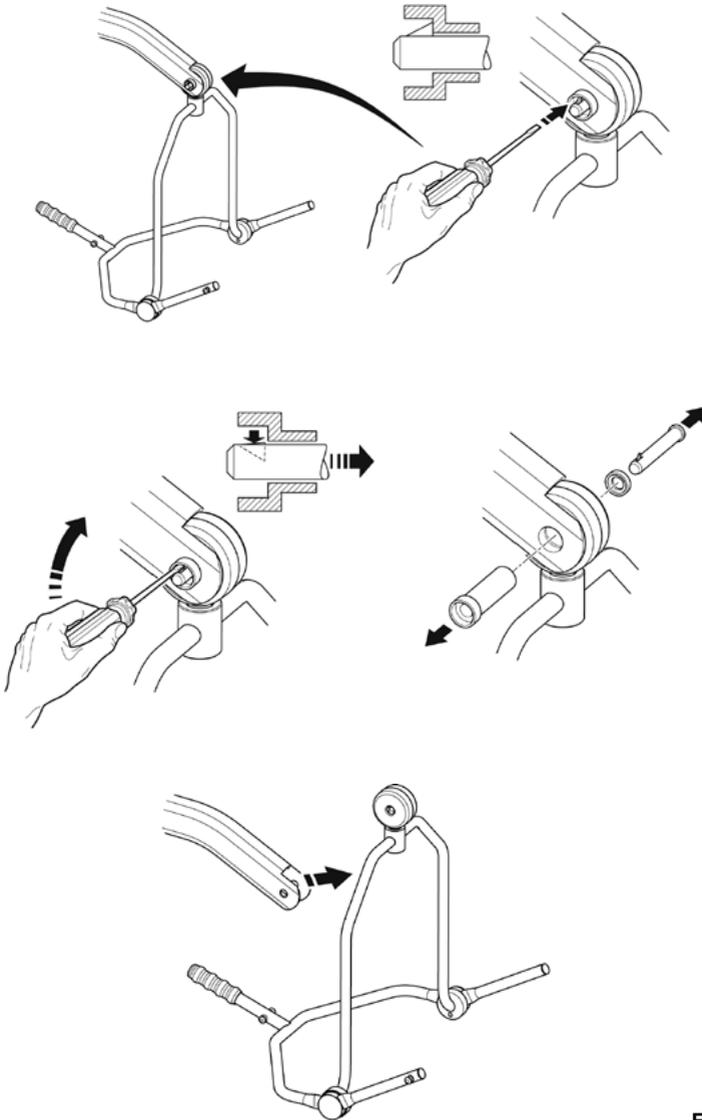

Fig. 10
2. Pull out the solid pin (which the spring barb is part of) (See Fig. 10, opposite).